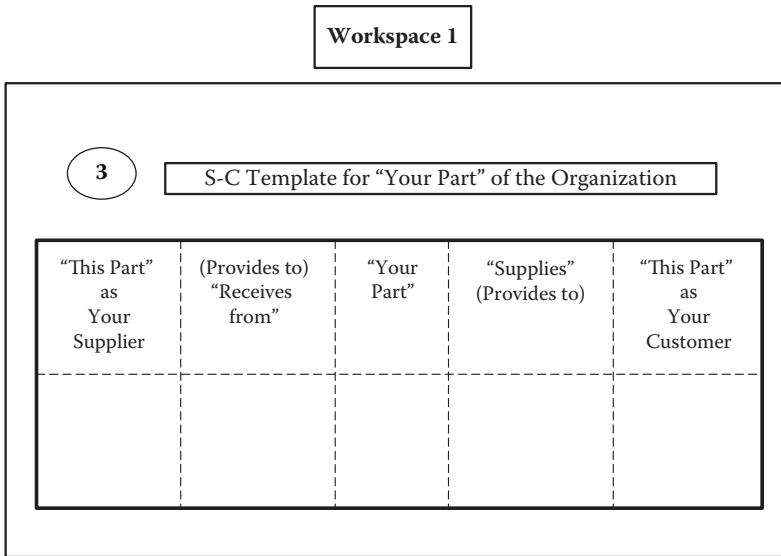

Figure 4.22 Supplier-customer template in workspace 1.
3. Create a S-C template and place it in “workspace 1” (Figure 4.22).